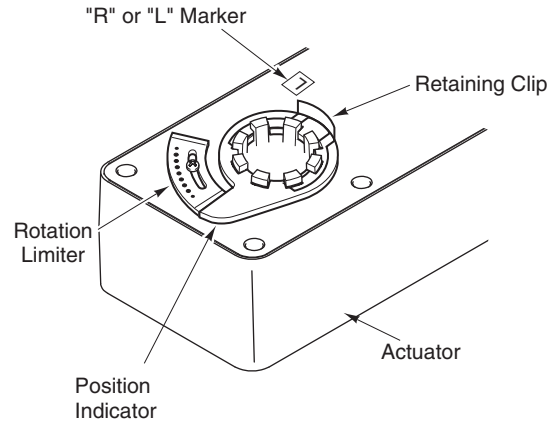

Figure-3 Installation of AM-689 Rotation Limiter.
1. Place the position indicator on the actuator as shown in Figure-3. Secure it in place using the retaining clip provided.